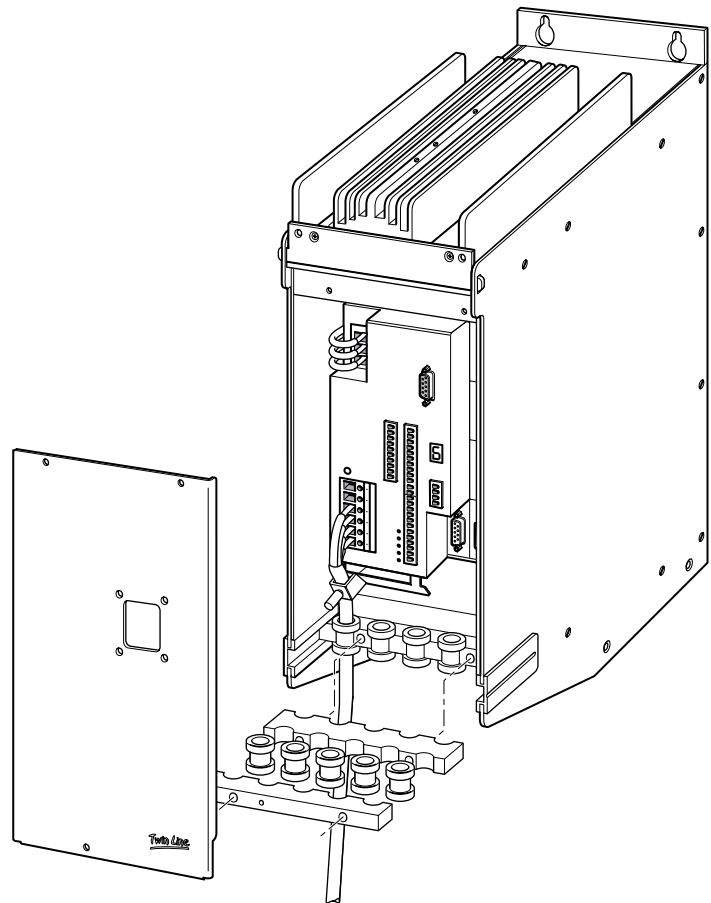

Fig. 4.6 Connection example for the IP54 controller
- ▶ Mount the grommets as shown in Fig. 4.6.